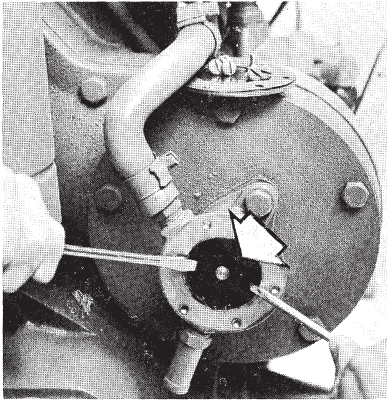

Fig. 24. Removing impeller. Arrow points to impeller lock bolt
1. Close the bottom cock. Remove the cover from the sea-water pump. **Note the risk of water getting into the boat.** With the help of two screwdrivers pull the shaft with the pump impeller out of the housing as far as necessary in order to reach the bolt retaining the impeller. See Fig. 24. NOTE. Place some kind of protection under the screwdrivers in order not to damage the impeller housing.